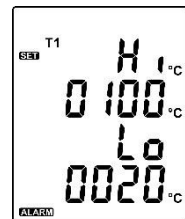

Fig.16
(1) Press the  or  button to turn on or off.
(2) When setting on mode, press the  button to set Hi and Lo limit. (see Fig.16)